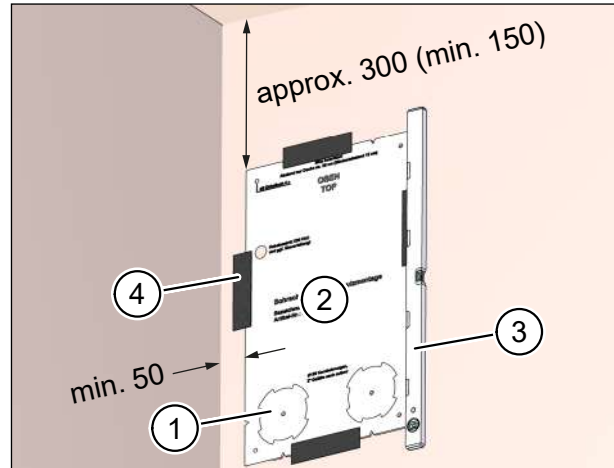

Fig. 16: Marking positions of the core drill holes
- ▶ Press the pre-punched cut-outs (item 1 in Fig. 16) for the core drill holes out of the drilling template.
- ▶ Position the drilling template (item 2 in Fig. 16) at the installation location on the internal wall.
- ▶ Use the spirit level to align the drilling template (item 3 in Fig. 16).
- ▶ Fix the drilling template in place with adhesive tape (item 4 in Fig. 16).